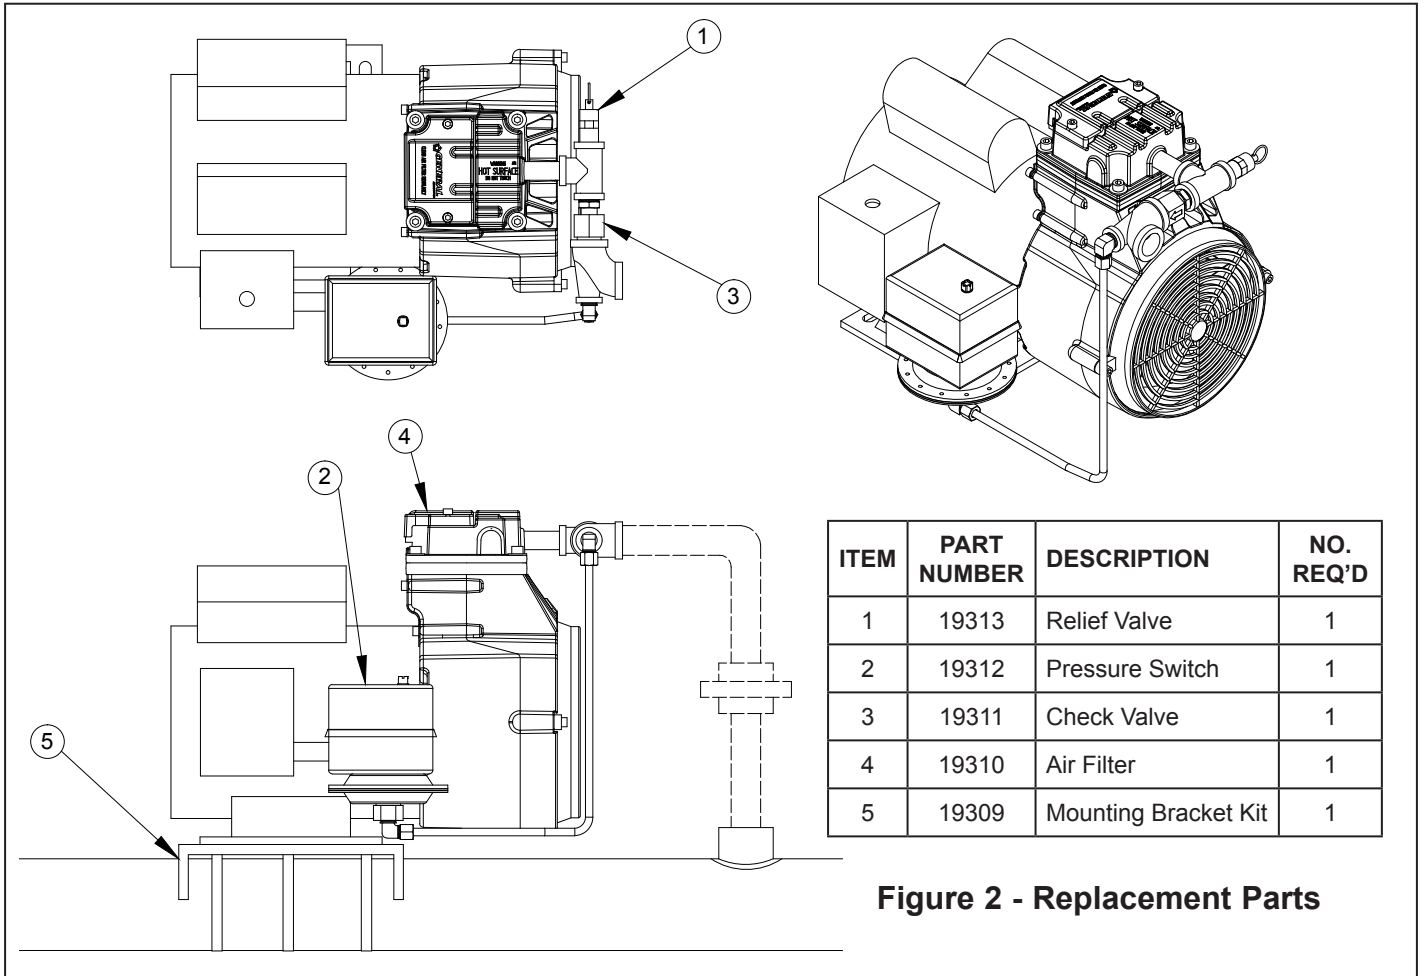

Figure 2 - Replacement Parts
- b. Remove the access cover shown in Figure 2 (screw driver is required).